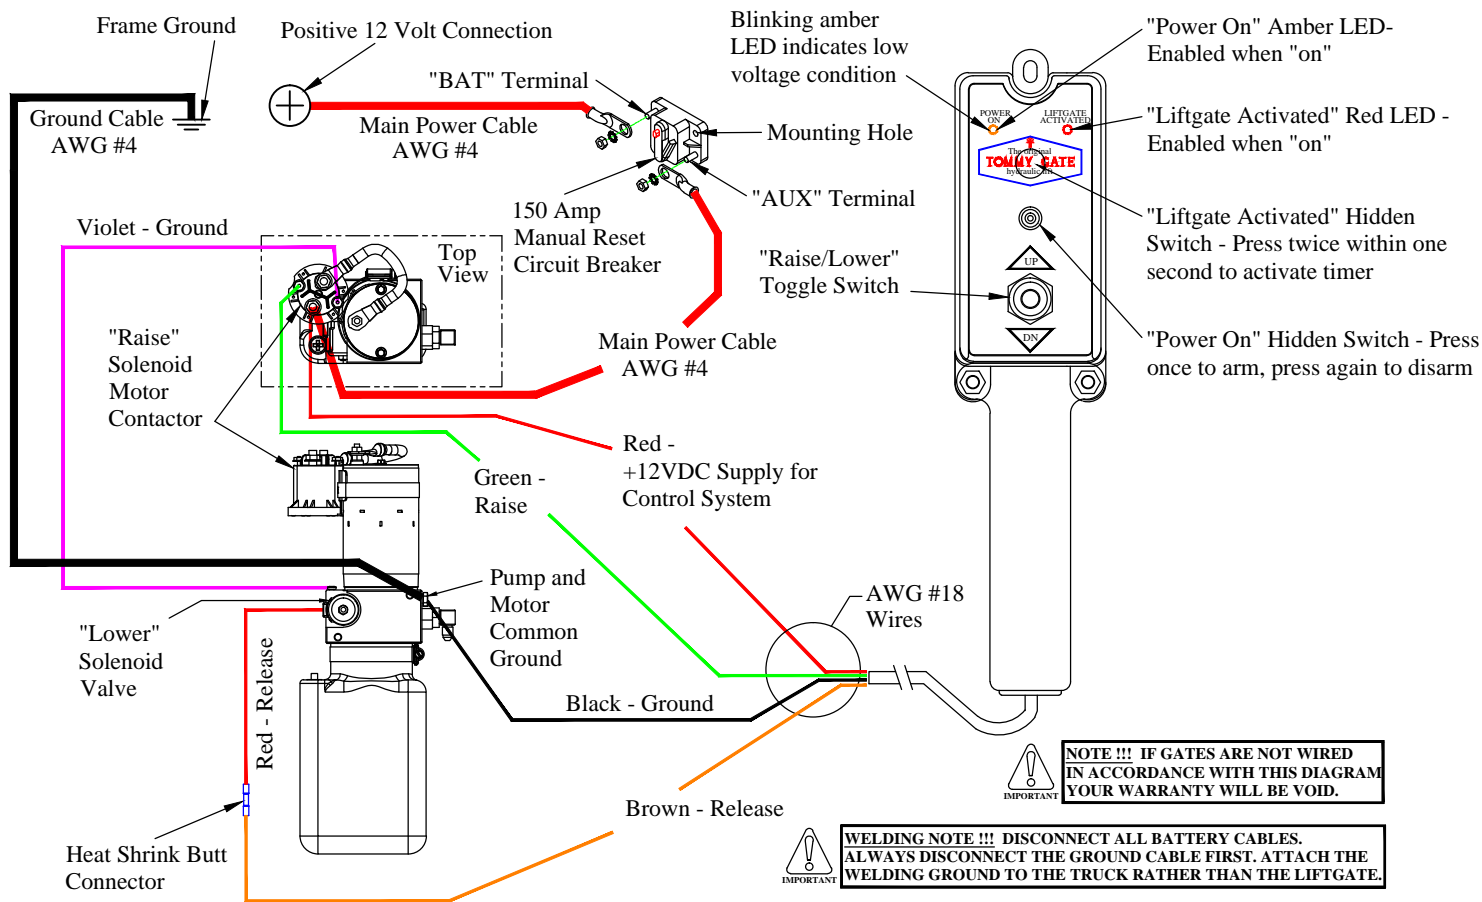

Figure 21: Wiring diagram.
Note: Follow the *Tommy Gate Recommended Electrical Wiring Guidelines* and wiring diagram (Figure 21) in the following steps.
13. **Connect** the circuit breaker (Figure 21). Use the supplied heat shrink tubing.
- 21. **Connect** the positive(+) lead to the CCP bus bar. Use the supplied 5/16" bolt, lock nut, and two (2) pieces of heat shrink tubing to cover the cable connection to the bus bar.
- 23. **Push** the hidden "Power On" switch (Figure 21). The amber "Power On" LED will illuminate.